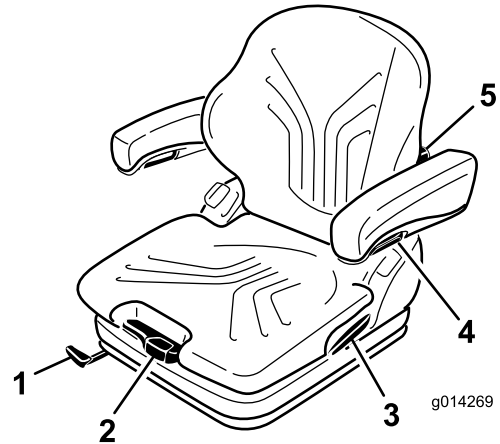

Figure 16
The seat is adjusted for the driver's weight by pulling or pressing the weight adjustment lever (Figure 16).
1. To adjust, lift the lever to unlock the seat (Figure 16).
By turning the adjustment knob upwards, the curvature in the upper part of the backrest cushion can be adjusted. By turning the knob downwards, the curvature in the lower part of the backrest cushion can be adjusted (Figure 16).
To adjust the armrests for height, separate the round cap (Figure 16) from the cover, loosen the hexagon nut (13 mm) behind it and adjust the armrests to the desired position and tighten the nut. Replace the cap onto the nut.
To adjust the angle of the armrests, turn the adjustment knob (Figure 16).
Pull up the locking lever to release the backrest catch (Figure 16). When releasing the backrest catch, do not apply load to the backrest by pressing against it.